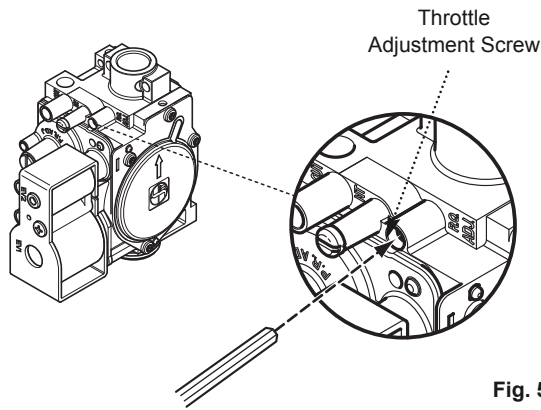

Fig. 58
**i** If a new gas valve has been fitted it is recommended that to assist the boiler to light prior to final setting, use a suitable hexagon key to wind out the Throttle Adjustment Screw (Fig. 58) until it is flush with the valve body, then turn the screw 4 full turns clockwise. If the boiler will not light, or the correct CO2 cannot be achieved contact Baxi Customer Support.